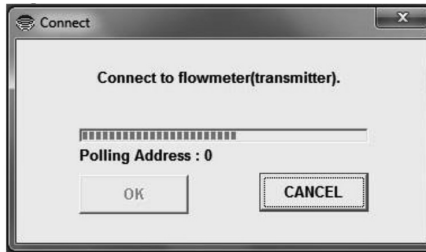

Fig.10
- ⑦ Click "OK" after specifying the polling address. A message box (Fig.10) appears, and the connection begins. While communicating,  on the upper right corner of the screen will be blinking.